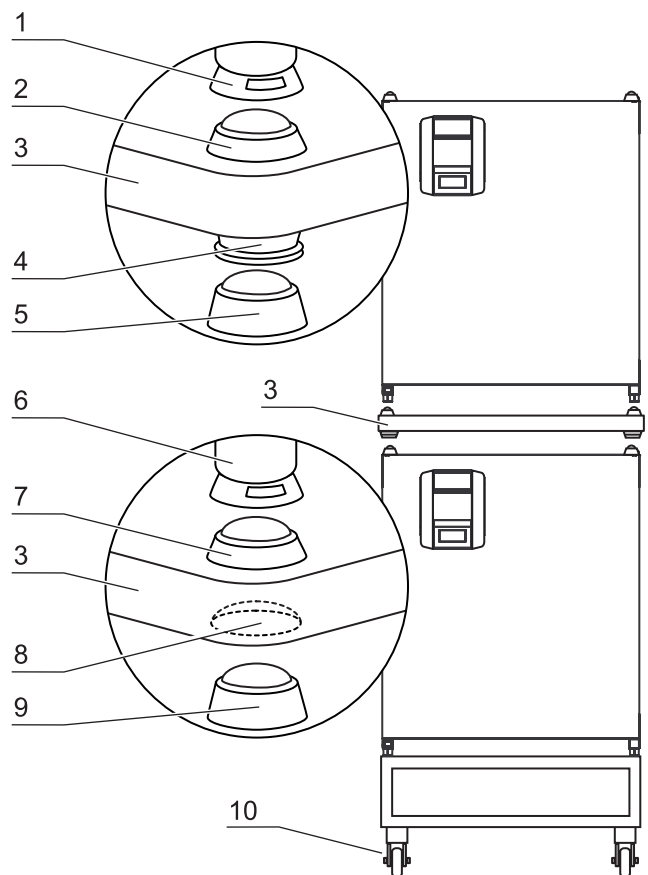

Fig. 3: Stacking
**Fig. 3:** HERAcell® 150 i / 240 i is suited for stacking up to two devices of the same device type. For thermal separation, an adapter plate [3] can be placed between the two devices.